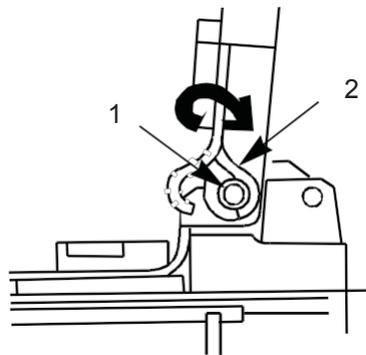

Figure 65. Retaining Pin, Headless Pin.
37. Pivot hooked retaining pin (Figure 65, Item 2) over end (right side) of grooved, headless pin (Figure 65, Item 1).